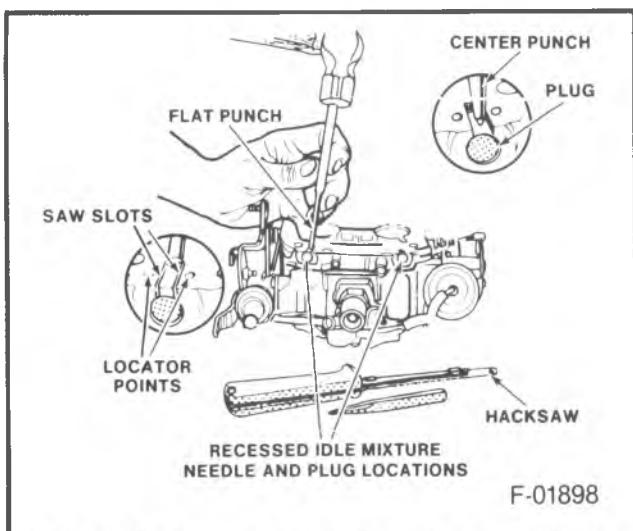

Figure 10 -- Removing Idle Mixture Needle Plugs
- Remove or Disconnect (Figure 10)
2. Make two parallel hacksaw cuts in the throttle body, between the locator points near one idle mixture needle plug (422). The distance between the cuts depends on the size of the punch to be used.